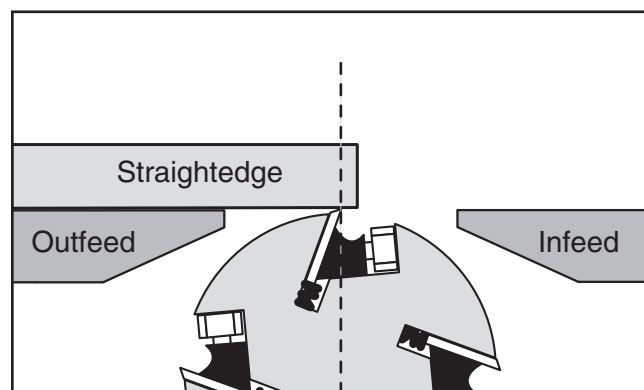

Figure 9. Using a straightedge to align outfeed table height with knife at TDC.
3. Raise or lower the outfeed table until the knife just touches the straightedge (**Figure 9**).